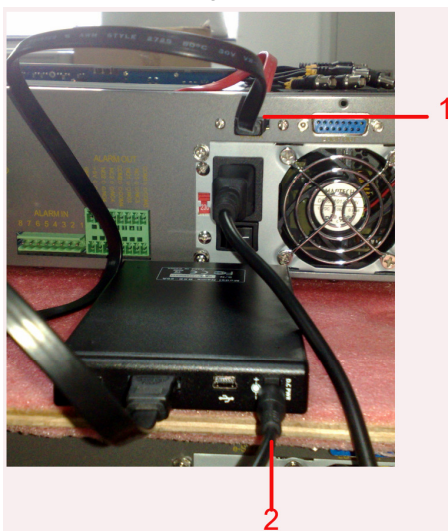

Fig. A-1 Portable Hard Drive Connection
The connecting method is shown in Fig. A-1
- ◆ Step 2: Connect cables as Fig. A-1